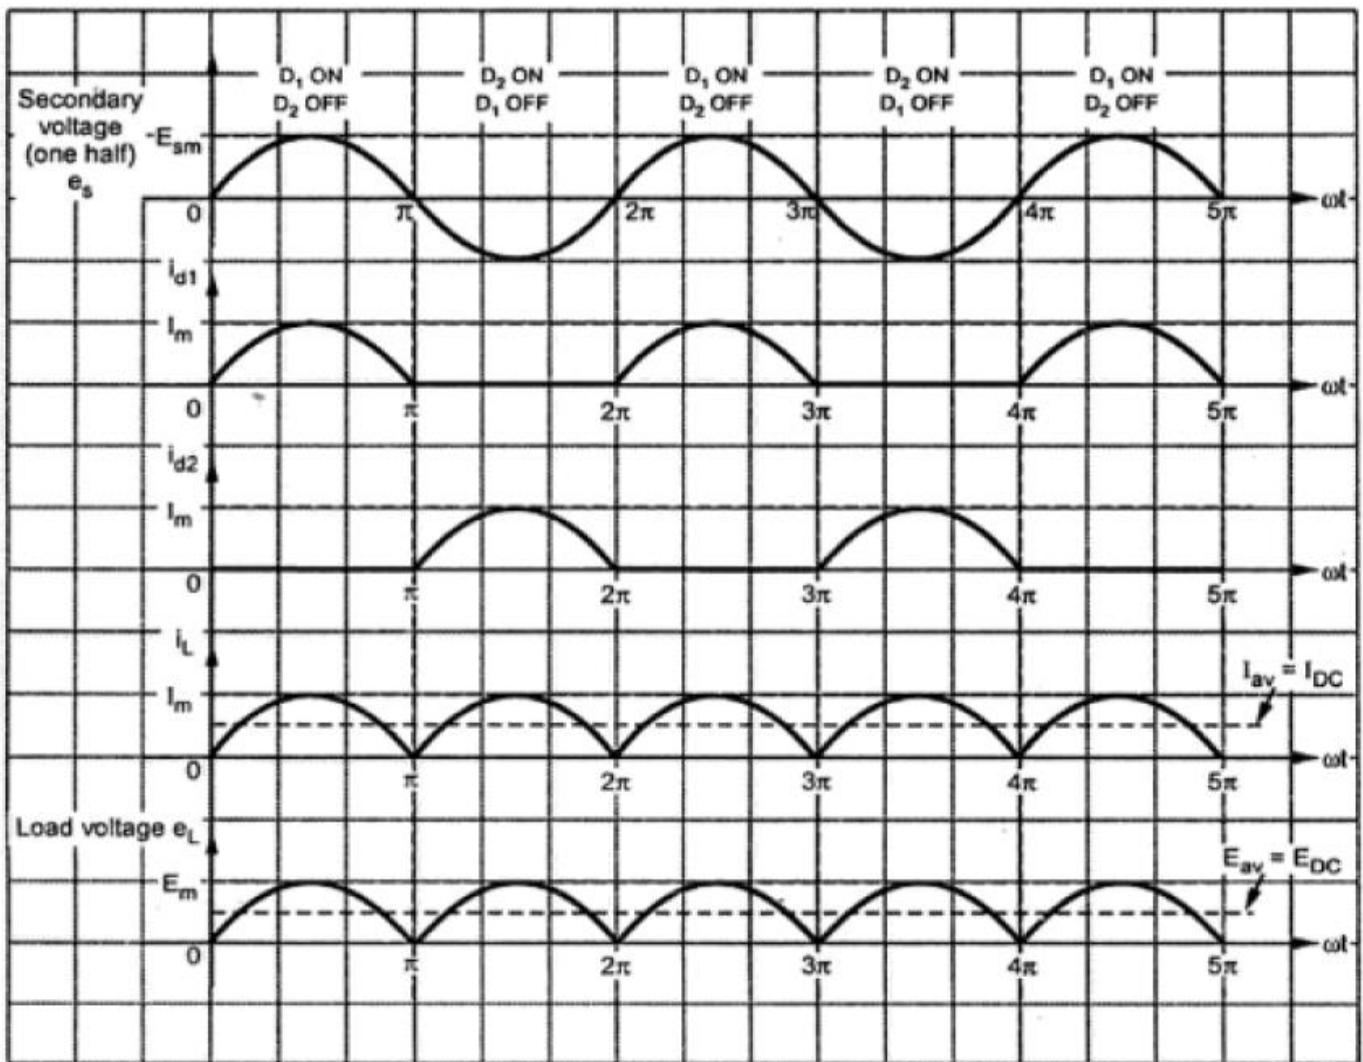

Fig. 2.4 Waveforms for Full wave rectifier
- Consider the positive half cycle of a.c input voltage in which terminal (A) is positive and terminal (B) negative.
- The diode current and the load current are illustrated in the Fig. 2.4.
- During negative half cycle of a.c voltage, polarity reverses and terminal (A) becomes negative and (B) is positive.